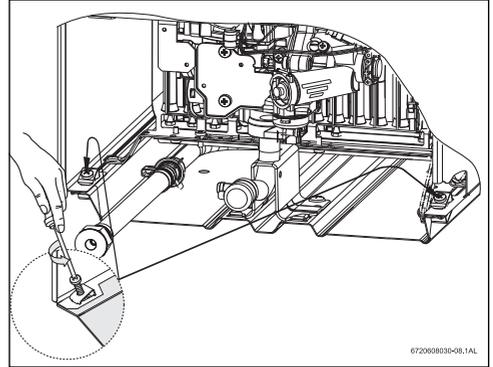

Fig. 6 Remove front cover
- ▶ Unscrew the cover fixing screws, see Fig. 6.
Masonry chimneys shall be built and installed in accordance with NFPS 211 or local codes. A minimum 5" diameter gas vent pipe (metal double wall Type B), or an approved clay flue liner or a listed chimney lining system must be used when venting into a naturally drafting, internal masonry chimney. 6 inch is required in elevations greater than 2000 feet, see Fig. 6. Local codes may require the use of both gas vent and an approved lining system when venting into a masonry chimney. The Commonwealth of Massachusetts requires the use of a listed liner. Lining systems include approved clay flue lining, a listed chimney lining system or other approved material that will resist corrosion, erosion, softening, or cracking from exhaust flue gases at temperatures up to 1800 degrees F. The lining system must be listed for use with naturally drafting, draft hood equipped gas appliances. Follow local codes and refer to NFGC 54 and NFPA 58.